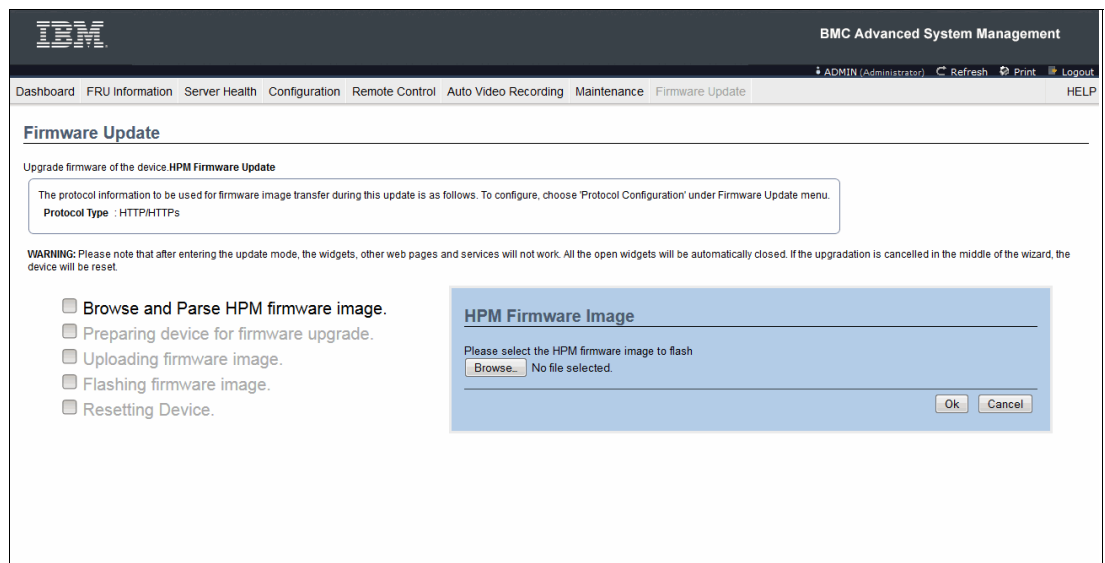

Figure 2-5 Select the firmware image
- Select the firmware update file from your local disk by selecting **Browse and Parse HPM firmware page**, clicking **Browse**, and selecting the file, as shown in Figure 2-5,